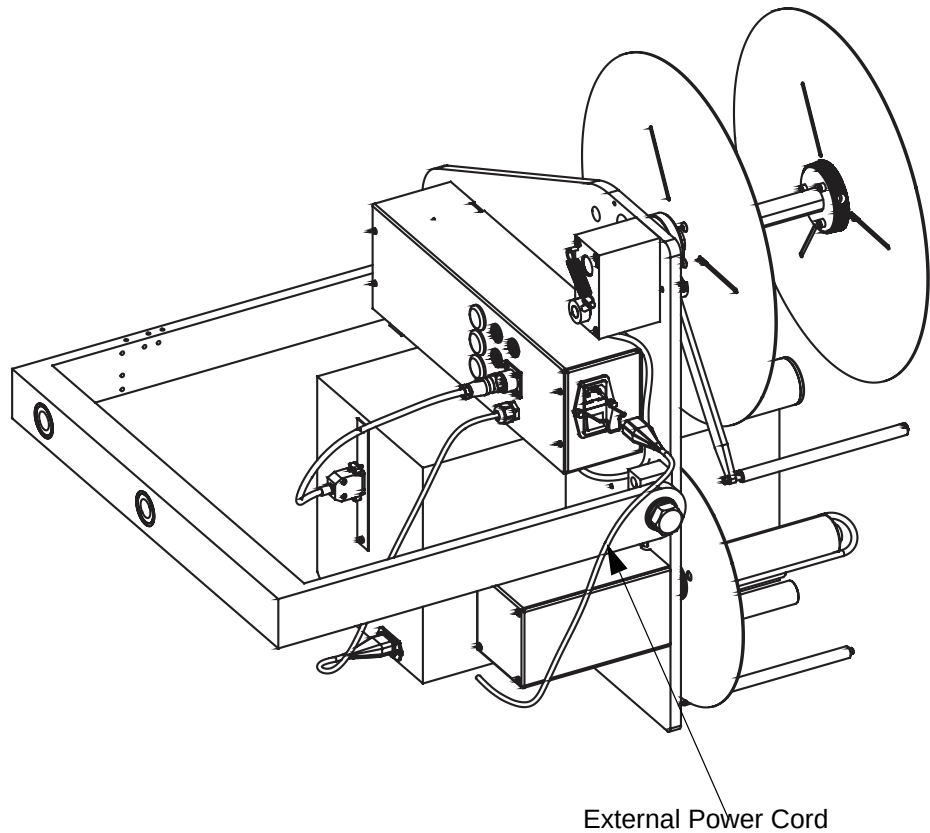

Figure 4-3. External Power Cord Connection
- 3 Connect the power cord to the side of the electronics module (Figure 4-3 on page 4-5), and plug it into the mains power. Turn on the power switch located at the rear of the connector panel.